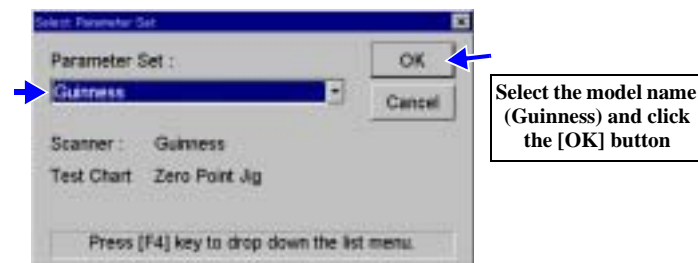

Figure 5-14. Parameter Setting
2. Run the adjustment program. Upon start, the “Select Parameter Set” window will open. (See Figure 5-14)